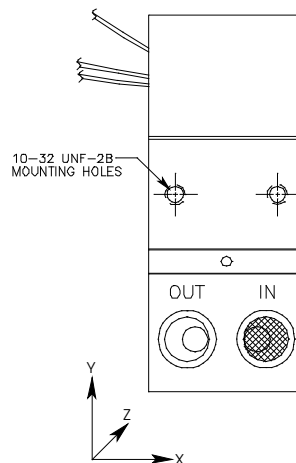

FIGURE 1
- For maximum output pressure stability, the Type 1500 should be mounted vertically in a vibration free location or such that the vibration is isolated to the X and Z axis as shown in Figure 1.